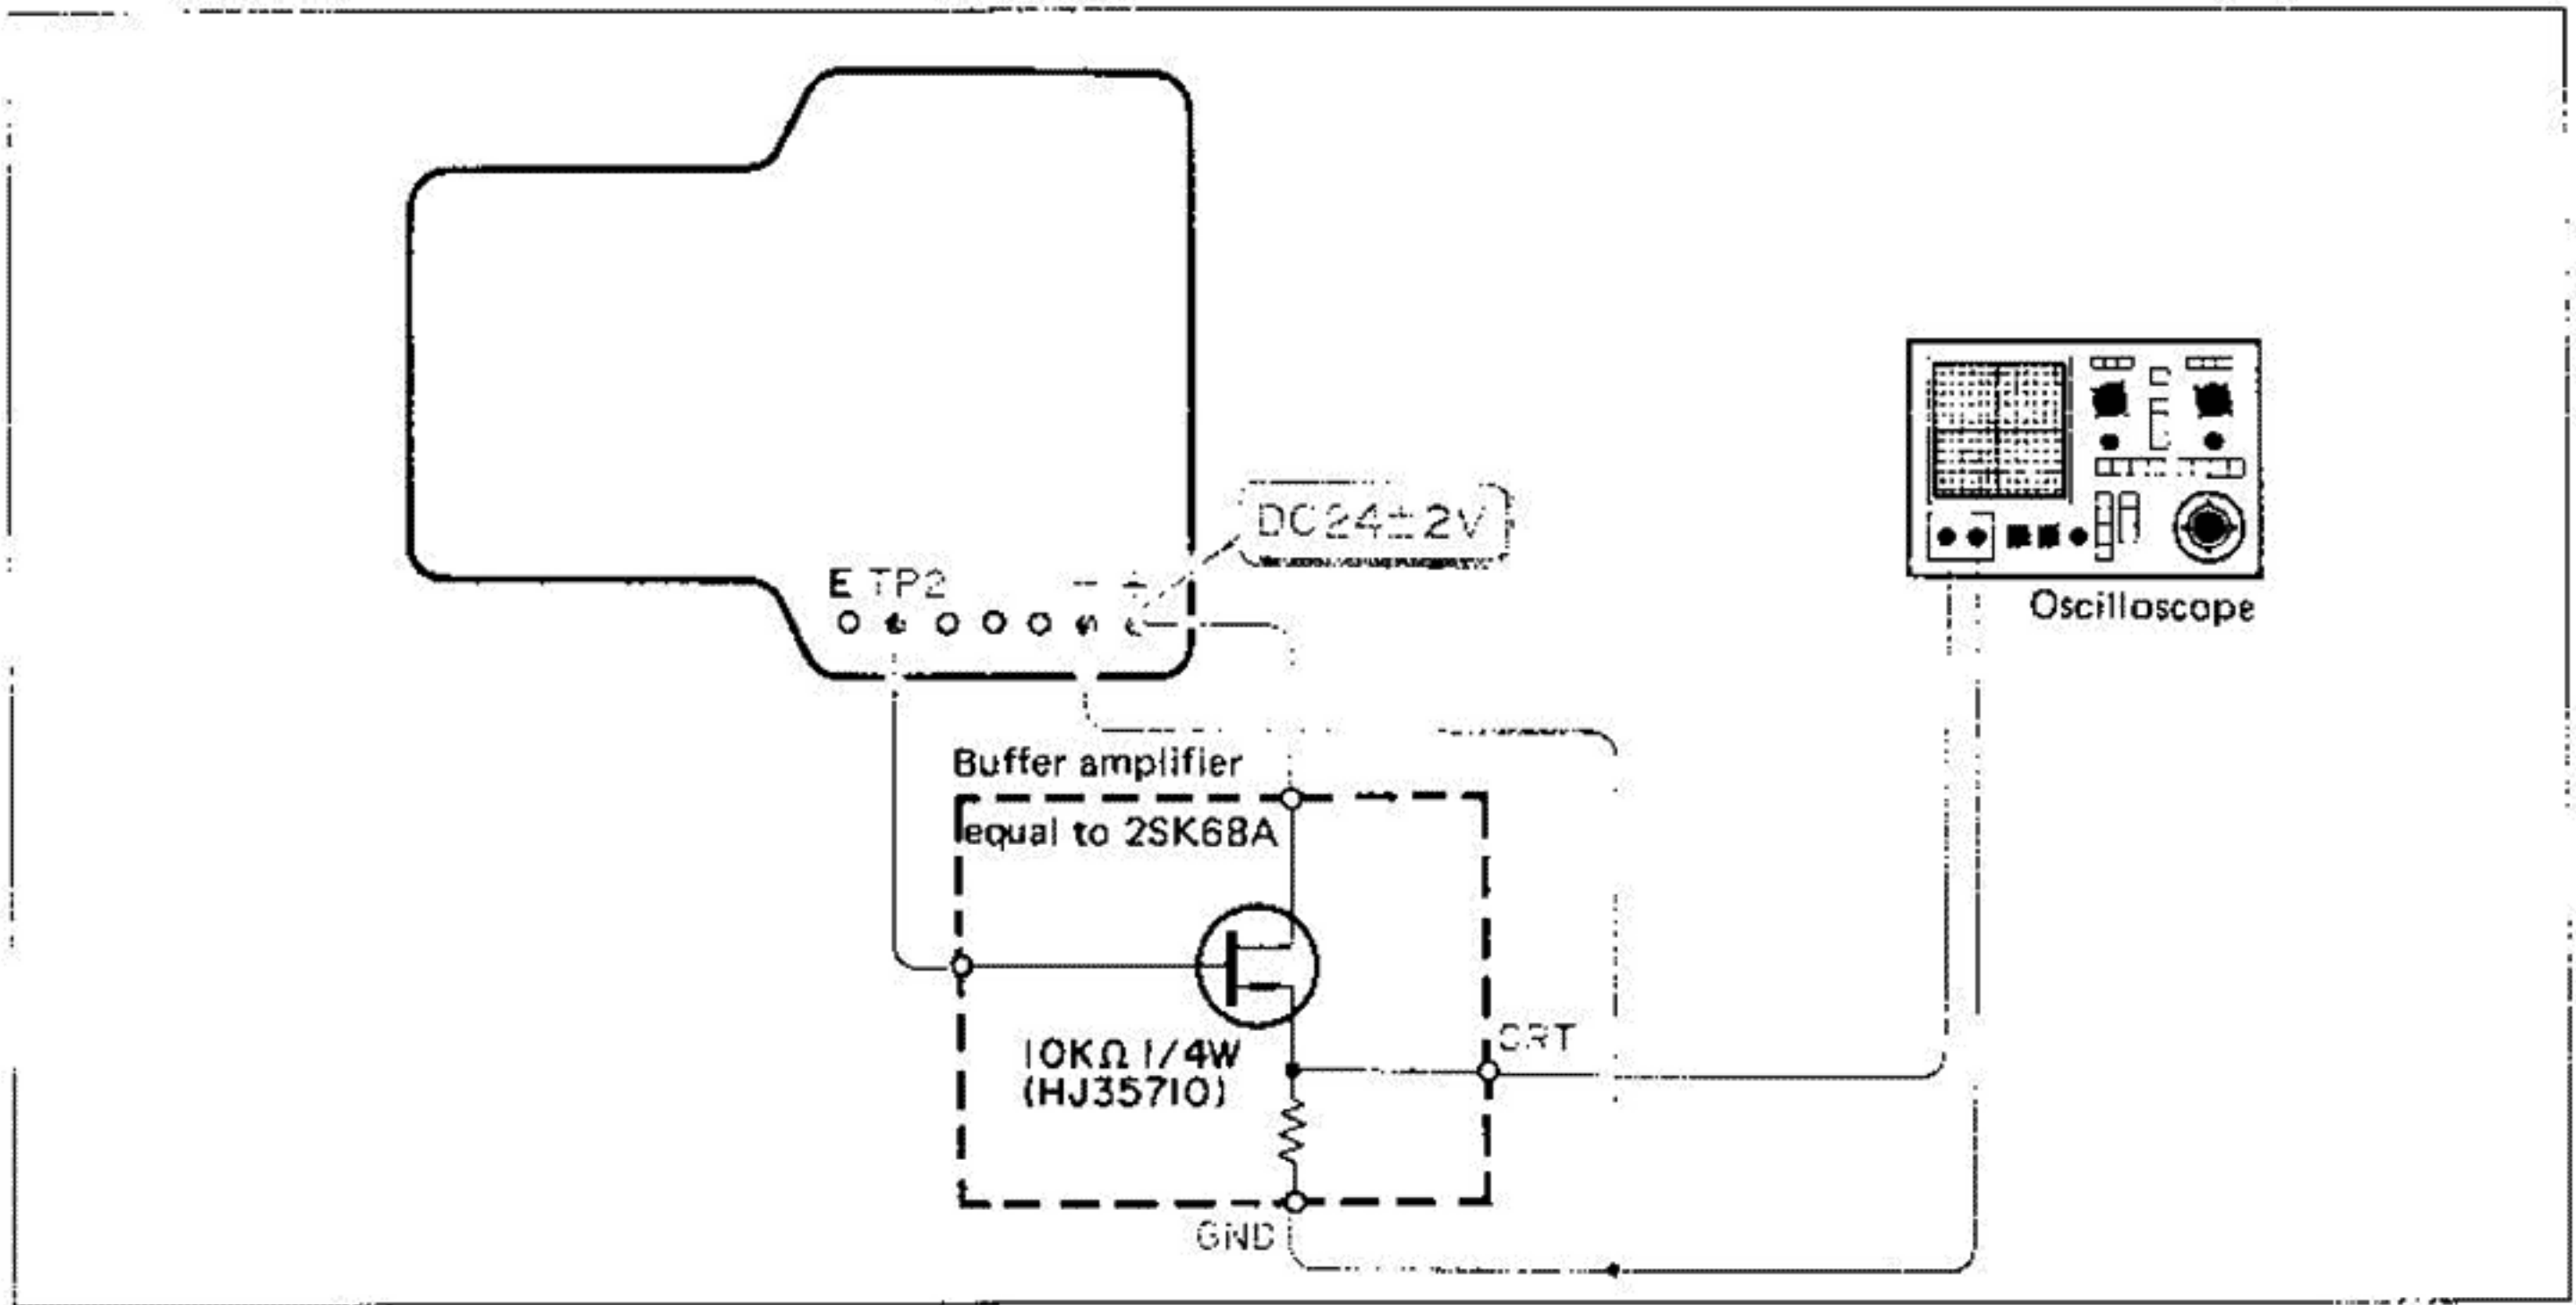

Fig. 14
1. Connect buffer amplifier with motor servo circuit board as shown in Fig. 14.